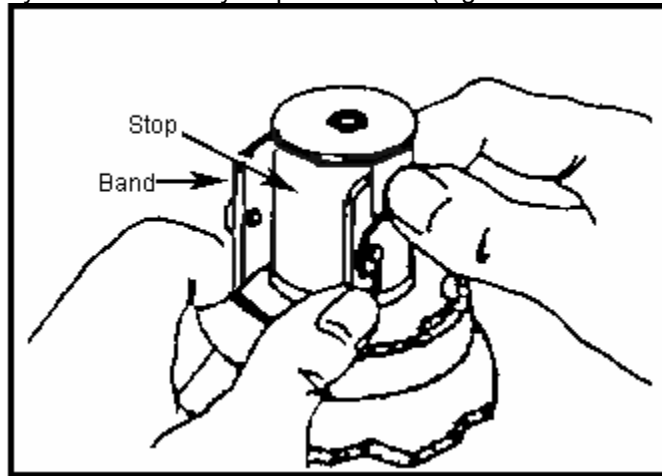

Figure 052-192-1118-1
- b. Attach the safety band and safety stop (Figure 052-192-1118-1).